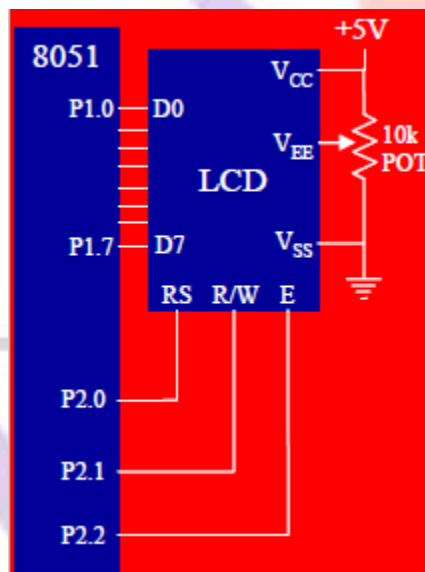

Figure 5.2 LCD Interfacing With 8051
- This is done by connecting one end of a POT to the V_{cc} (5V), other end to the Ground and connecting the center terminal (wiper) of of the POT to the V_{EE} pin. (Refer Figure 5.2)